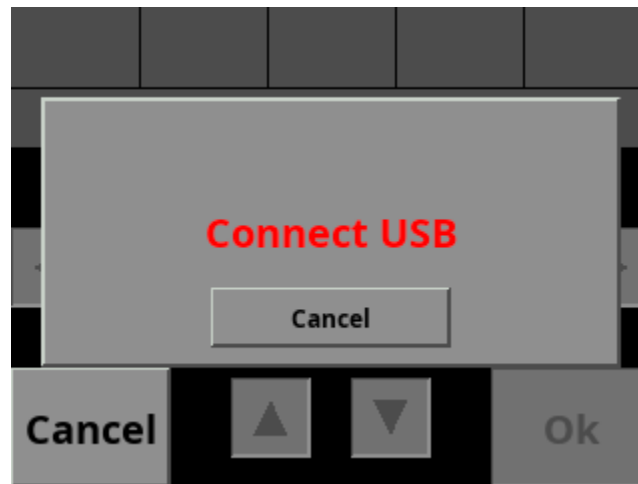

Figure 13: Upgrade Firmware screen with “Connect USB” message
- STEP 2: Navigate to the Calibration → Config → Upgrade Firmware screen. Figure 13 will appear, as shown below.